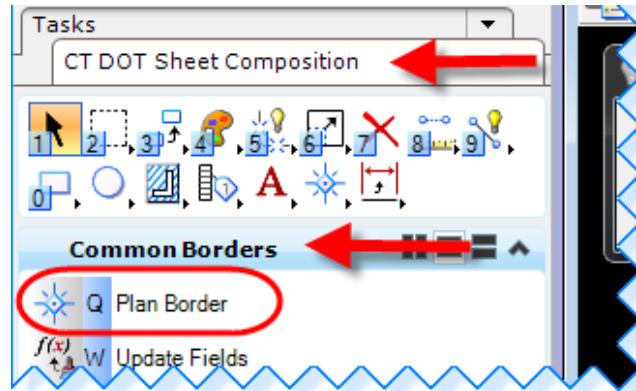

Figure 44 - CT DOT Sheet Composition Tasks
1. Click on **CT DOT Sheet Composition** within the Main Task menu, see Figure 44.